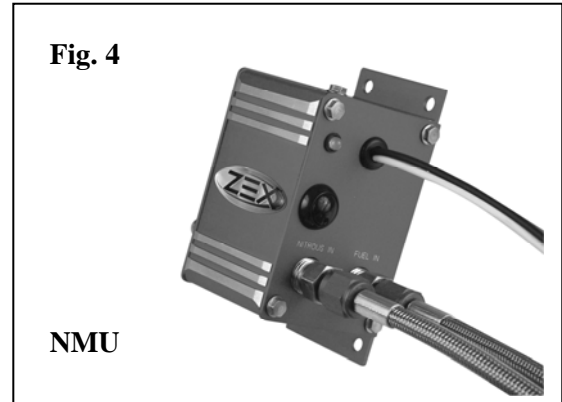

Fig. 4
4. Mount Nitrous Management Unit. Keeping in mind the length restrictions of the nitrous nozzle feed lines, mount the Nitrous Management Unit (Fig.4) in a suitable location. It's a pretty rugged piece of equipment that is built to withstand underhood temperatures as well as exposure to weather. Connect the nitrous delivery line to the Nitrous Management Unit.